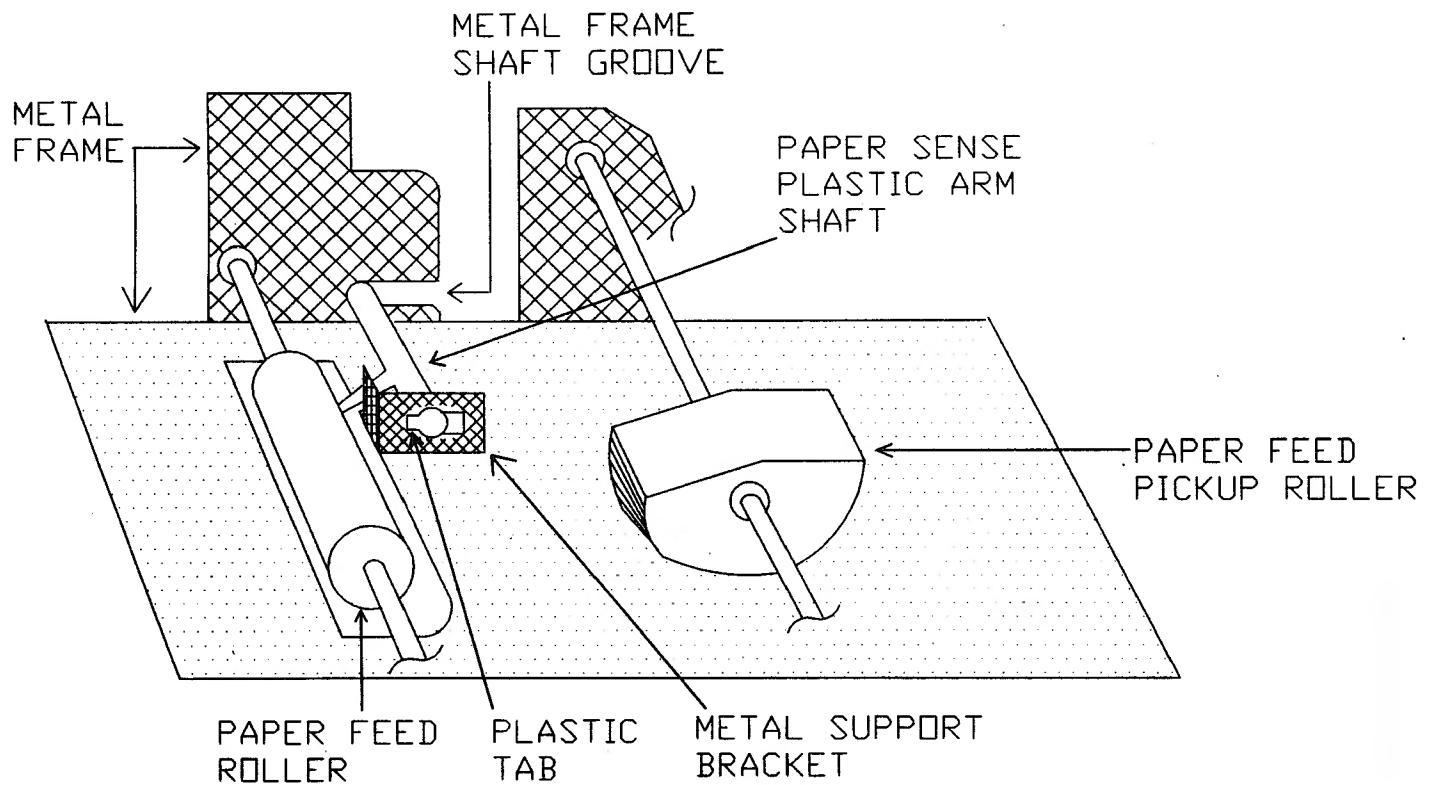

Figure 4
6. Refer to figure 4. Turn the paper feed unit upside down and orient it so that the Solenoid PCB (not shown in this figure) attached to the paper feed unit is away from you. Figure 4 shows the location of the plastic arm shaft and its supporting metal frame brackets, one of two paper feed rollers, and one of three paper feed pickup rollers. NOTE: Not all of the paper feed unit is shown in figure 4. This is only a partial diagram.
7. To hold the plastic shaft arm in place, there is a small plastic tab on the end of the plastic shaft arm that sticks through the metal support bracket (the metal support bracket is shown in figure 4 as crosshatched). This small plastic tab may rub against the bent metal support bracket. Visually inspect the tab to see if it is rubbing against the bracket. If it appears to rub, **VERY GENTLY** bend the metal support bracket towards the upright metal frame piece (also shown as crosshatched) that the other end of the plastic shaft arm inserts into (keeping it perpendicular to bottom metal frame - in figure 4 the bottom metal frame is shown dotted).
8. If the tab does not appear to rub, insert a straight blade screwdriver into the metal frame shaft groove (also shown in figure 4) and pry up **GENTLY**. This should allow the plastic arm shaft a little more room to rotate within the groove. It may be necessary to repeat this prying procedure several times until proper freedom of movement is achieved.